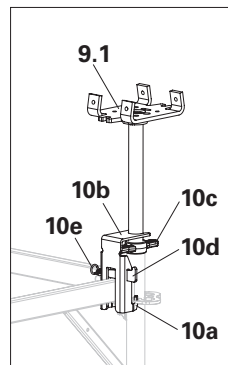

Fig. A1.22a
1. Install end frame (7).
2. Install horizontal ledger (3).
4. Fit ledger brace (6).
5. Insert one head spindle (9.1 / 9.2) into each of the tubes of the end frame. (Fig. A1.22a + A1.22b)
6. Optional: place the groove of the head spindle locking (10) on the horizontal ledger, in the process hooking in the two claws (10a) into the rosette from below.